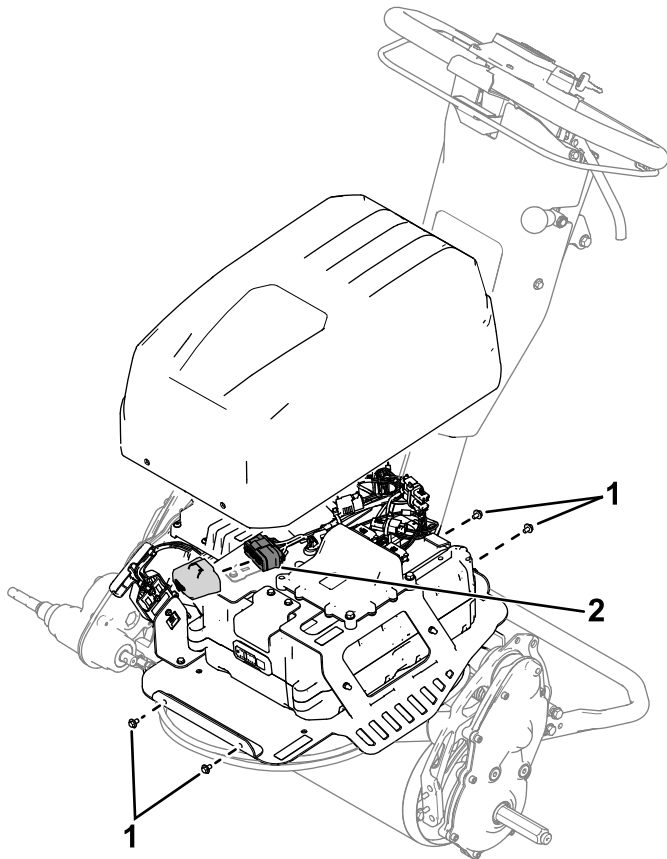

Figure 31
2. Remove the 4 screws (Figure 31) that secure the battery-pack cover and remove the cover.